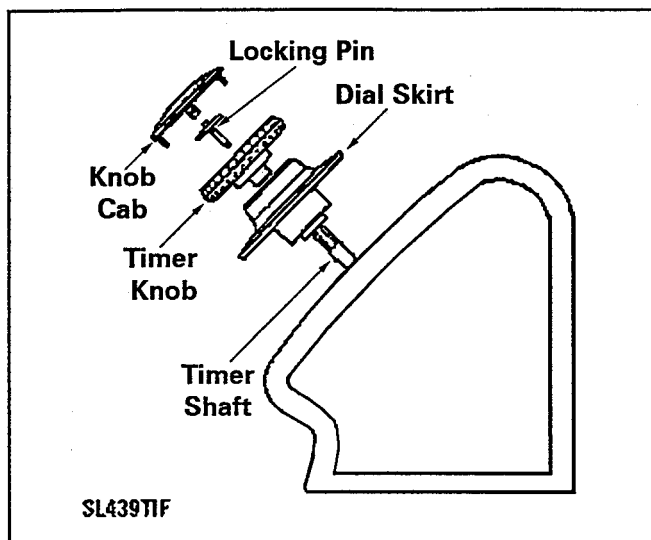

Figure 4-7
4. Lift the dial skirt off the timer shaft (*Figure 4-7*).